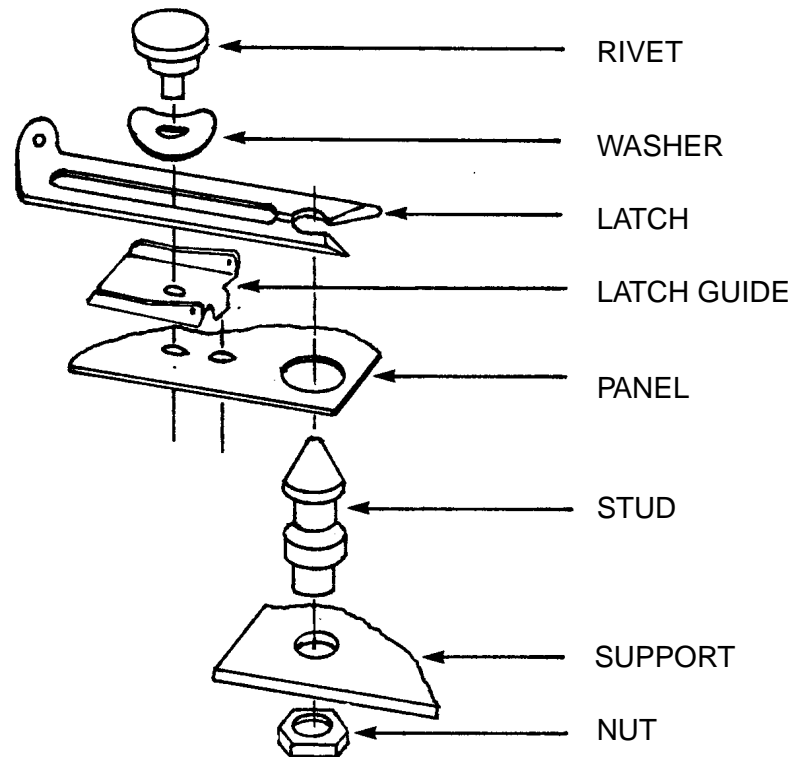

Figure 1 - General Description of a Snapslide Fastener
- 4.1.1 Snapslide fasteners as specified on the engineering drawing. Refer to Figure 1 for a general description of a snapslide fastener.
- Step 1. Assemble the slide assembly according to Figure 1.